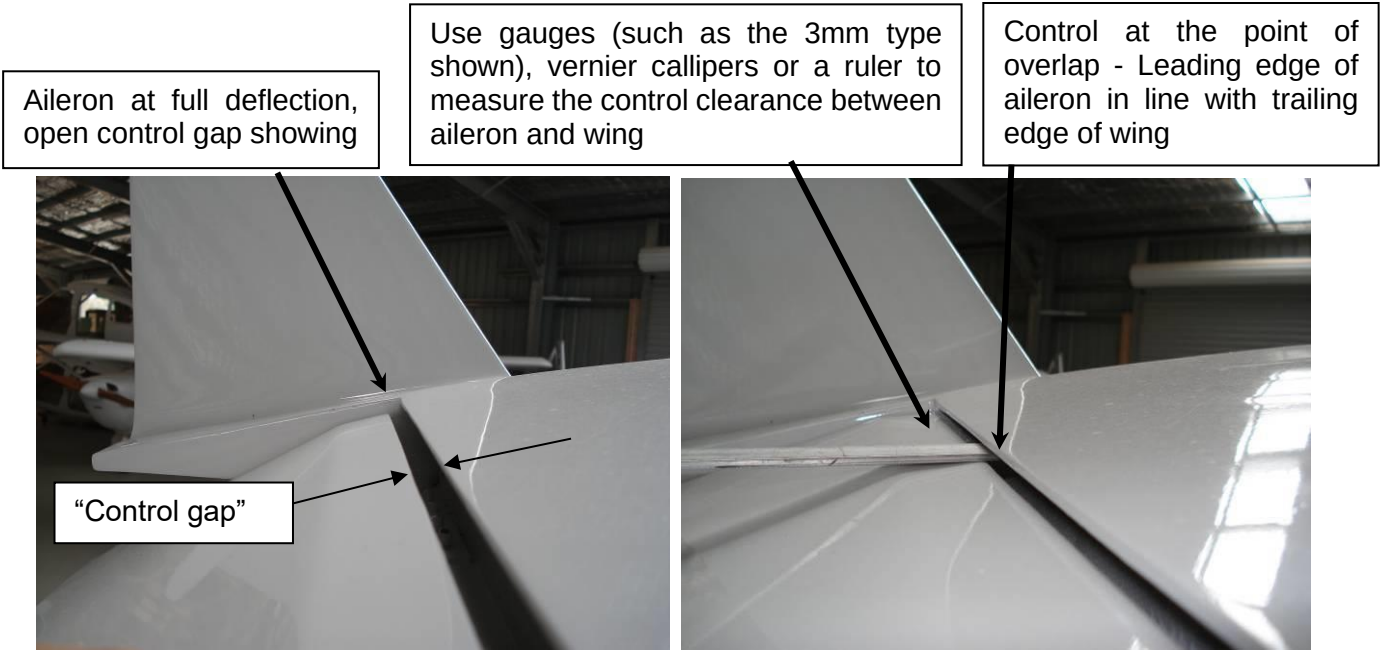

Figure 21 – Aileron Clearance (all J-Series)
- **Control gap** – Best shown on Figure 21 (left). If the control passes the point of overlap a gap opens between the aircraft and the control. A gap like this combined with excess flexing of the control surface hinges will lead to control surface jamming.
- Check each control by moving it to its maximum deflection and inspecting for a control gap – as shown in the example of Figure 21.
- Set the controls so that the control being tested is at the point of overlap – as shown in the right picture in Figure 21. If the control being tested does not deflect to a point of overlap then place it as close as possible to the overlap point.